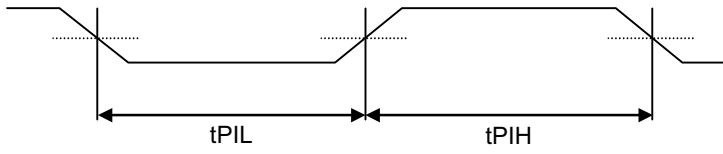

Figure 6 Pulse Input Timing Condition.
| | tPIH(2) tPIL(2) | ·INT3/T0IN (1/1 is selected for noise rejection clock.) ·Refer to figure 6. | ·Interrupt acceptable ·Timer 0-countable | 3.15-3.85 | 2 | | | |
| | tPIH(3) tPIL(3) | ·INT3 (1/64 is selected for noise rejection clock.) ·Refer to figure 6. | ·Interrupt acceptable | 3.15-3.85 | 128 | | | |
| | tPIL(4) | ·RES ·Refer to figure 6. | ·Reset acceptable | 3.15-3.85 | 200 | | | μs |